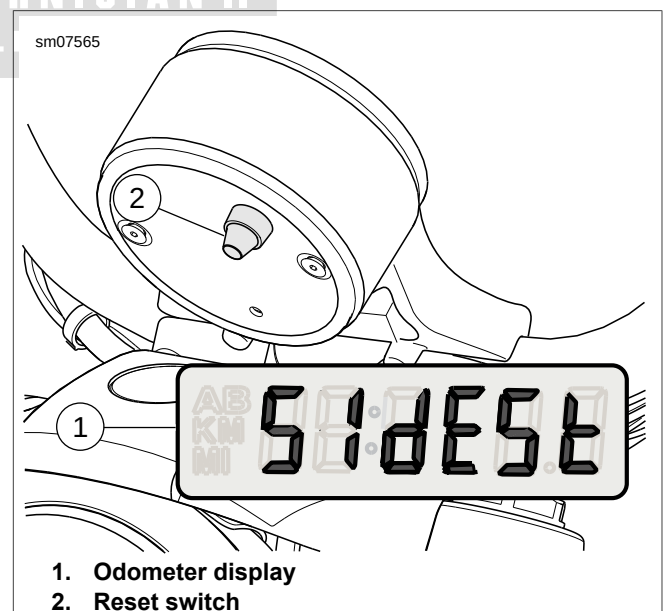

Figure 6-124. SidE StAnd Display
See Figure 6-124. The engine will not start if the rider presses the starter button with the transmission in gear and the jiffy stand down. The message "SidE StAnd" (1) will scroll across the odometer display.